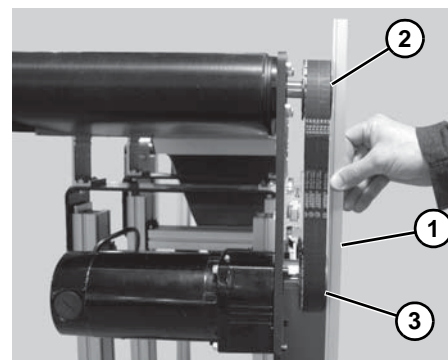

Figure 7
7. Using a straight edge (Figure 7, item 1), align driven pulley (Figure 7, item 2) with drive pulley (Figure 7, item 3).